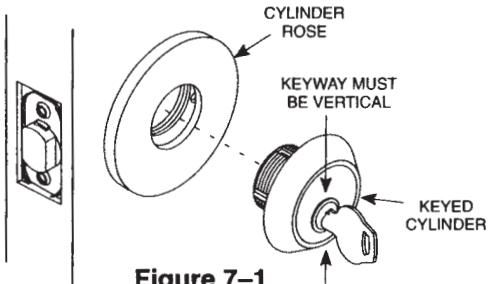

Figure 7-1
- A. See Figure 7-1. Hold cylinder rose against door. Insert key into cylinder. Pull key out one notch and screw cylinder into housing until it stops. (Use key as wrench.)